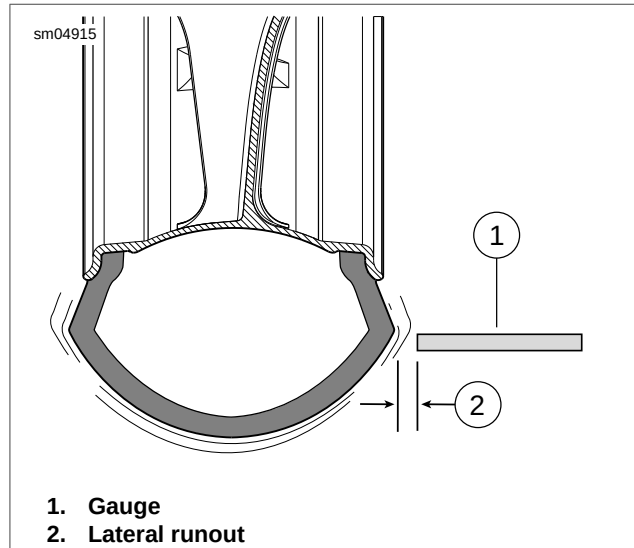

Figure 2-29. Lateral Runout
1. See Figure 2-29. Turn wheel on axle and measure amount of displacement from a fixed point to tire sidewall.